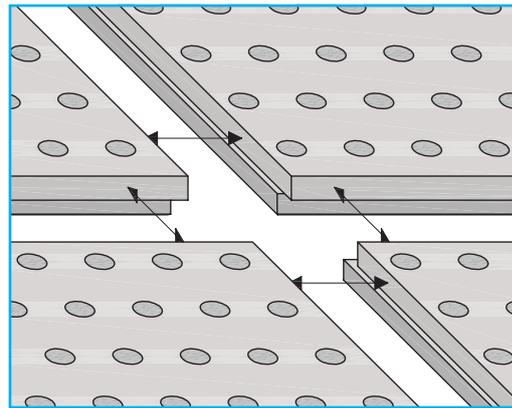

FIGURE 5 Linear Edges Alignment
- > Place linear notch edge adjacent to linear lap edge along short and long edges. [Figure 5]